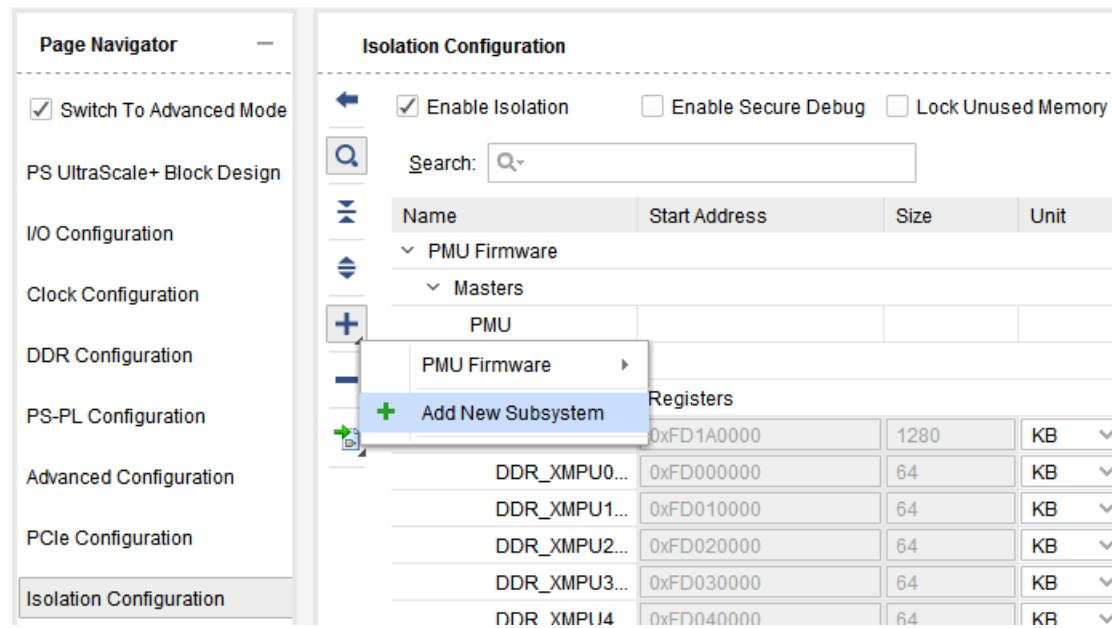

Figure 4-17: Creating a New Subsystem
1. Create a subsystem with any meaningful name using the "+" button as shown in Figure 4-17.
2. To configure Isolation, enable the Isolation feature using **Enable Isolation button** as shown in Figure 4-17.